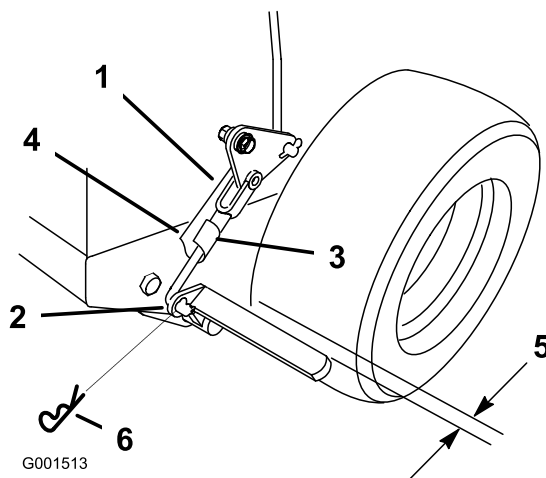

Figure 48
3. Remove the spring hair pin from the lower brake link (Figure 48).
4. Rotate the lower brake link yoke clockwise into the yoke to tighten the parking brake; rotate the brake link yoke counterclockwise out of the yoke out to loosen the parking brake (Figure 48).
Note: There should be approximately 1/4 inch clearance between the tire and the flat bar when the parking brake in the released position (Figure 48).
5. Secure the lower link to the lower brake lever with the hair pin cotter and the clevis pin (Figure 48).